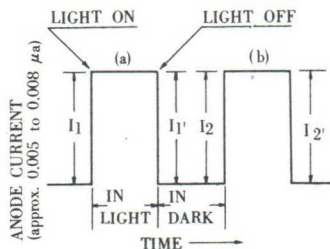
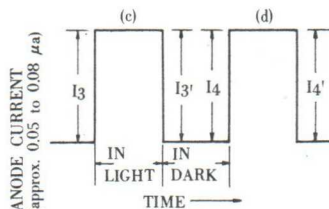

FIG. 2
FIG. 3
* The light intensity was adjusted as to so take the anode current (A) and (B) respectively.
3. The light pulse of from about 30 to 40 seconds interval was supplied to the tube as in the Fig.2 and Fig.3.